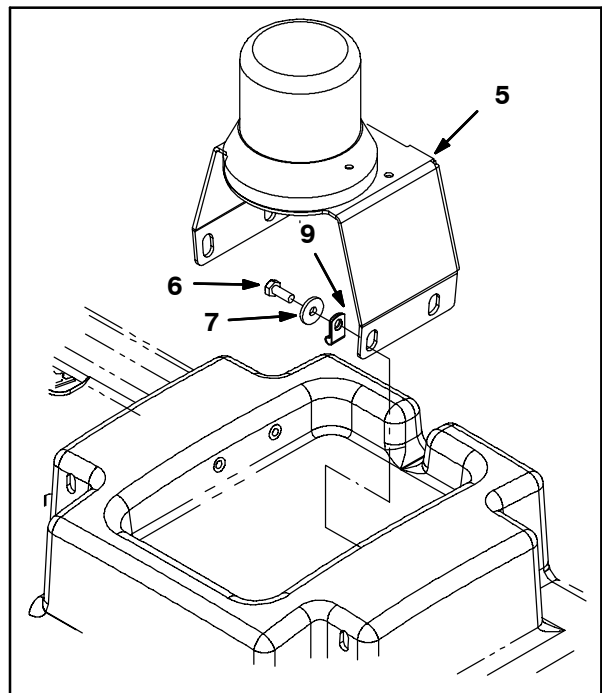

FIG. 6
- Route the warning/backup harness (8) through the notch in the solution tank and install a cable clamp (9) onto the warning/backup harness. Refer to Fig. 6.
- Use a hex screw (6) and flat washer (7) to install the cable clamp (9) on the warning/backup harness (8) onto light support bracket (5) and solution tank. Refer to Fig. 6.